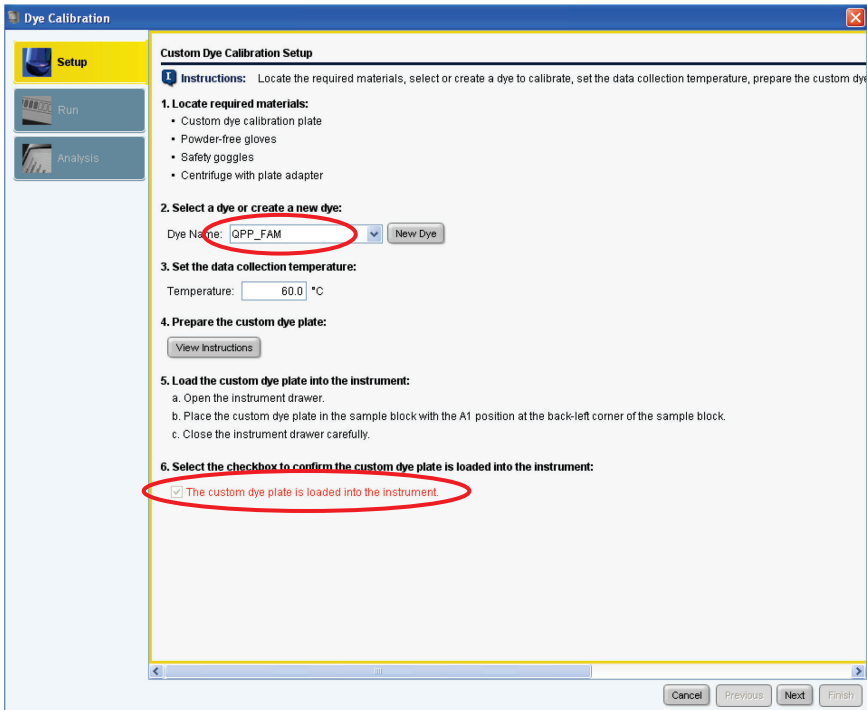

Figure 7. Selecting a dye from the drop down menu in the Custom Dye Calibration Setup.
18. Select **QPP_FAM** in the **Custom Dye Calibration Setup** window. Load the QPP_FAM plate prepared in Procedure A into the instrument. Confirm by checking the box for **The custom dye plate is loaded into the instrument** (Figure 7).